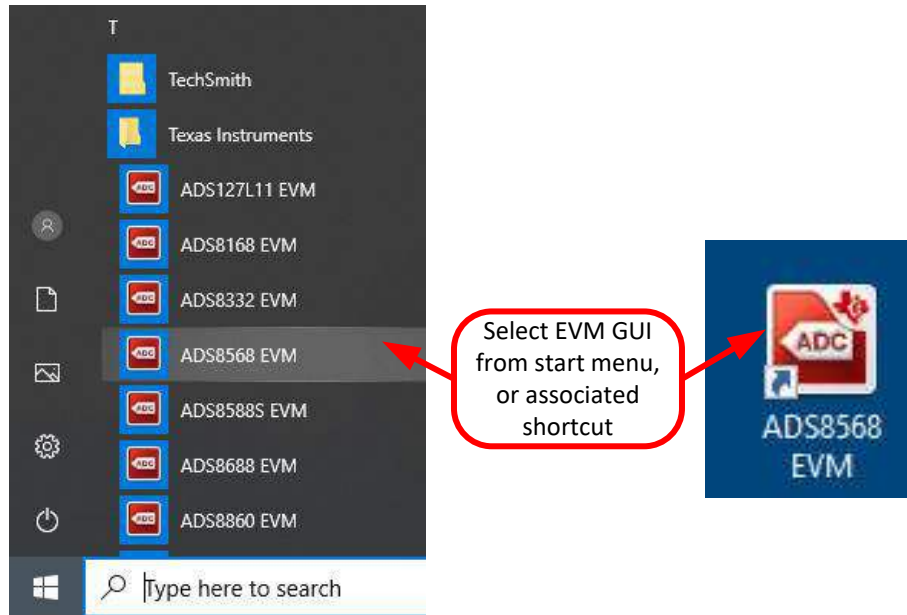

Figure 6-2. Launch the EVM GUI Software
4. Start the software GUI as shown in Figure 6-2. You will notice that the LEDs blink slowly as the FPGA firmware is loaded on the PHI. This will take a few seconds then the AVDD and DVDD power supplies will turn on.
Figure 6-2 shows how the software can be started on the start menu or using a desktop icon.